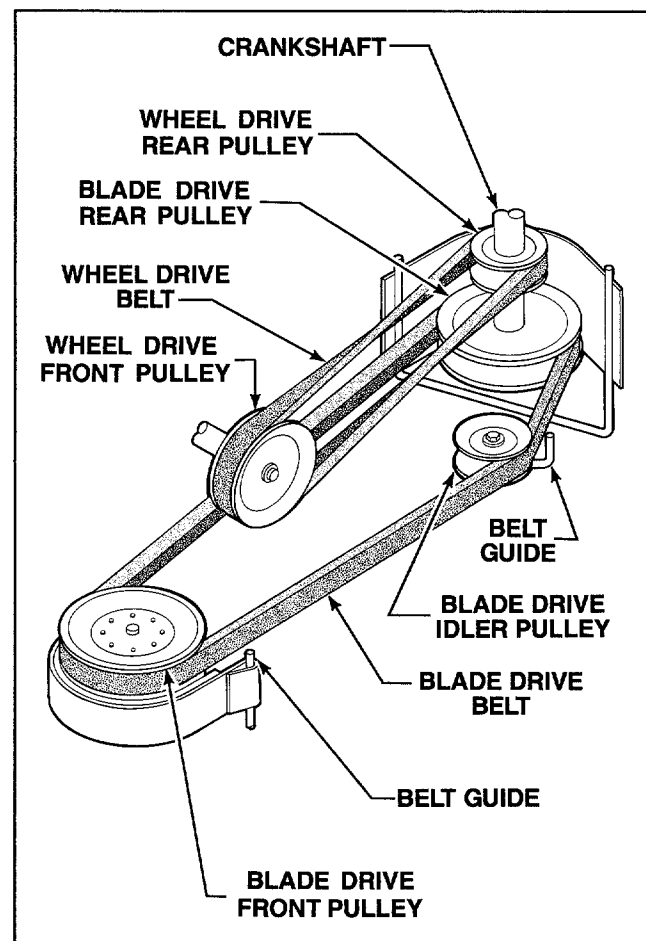

Figure 5-14: Wheel and blade drive belt/pulley systems.
D. In the following steps, refer to Figure 5-14, which shows the wheel and blade drive belt/pulley systems.